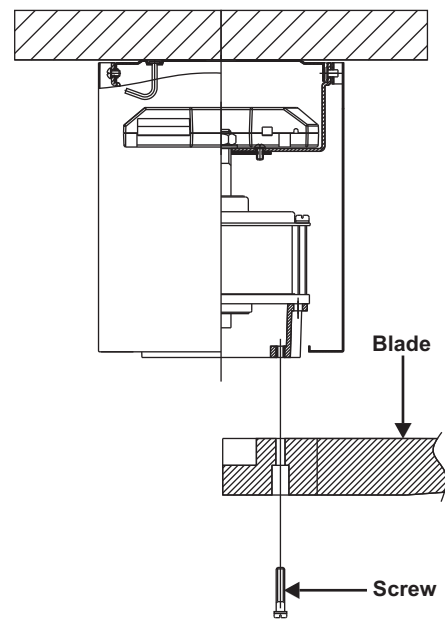

Figure 6
1. Fasten blade to motor using the screws supplied. (Fig. 6)